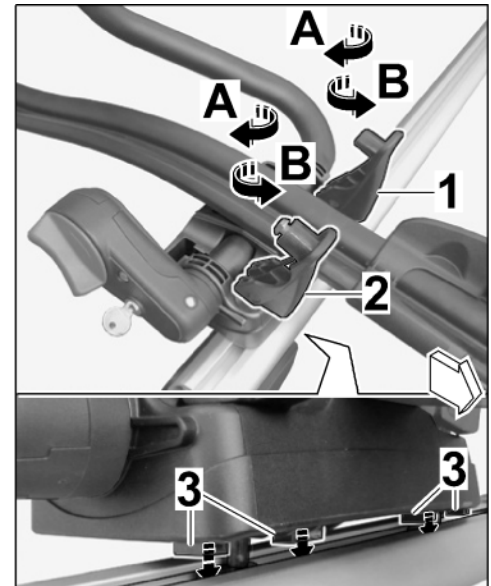

Figure 10
- 4.7.1 Turn the tensioning lever on the retainer plate (front) clockwise by 10 to 12 turns (⇒ *Figure 10-A*).
Turn the tensioning lever counter-clockwise by one or two turns (⇒ *Figure 10-B-*).